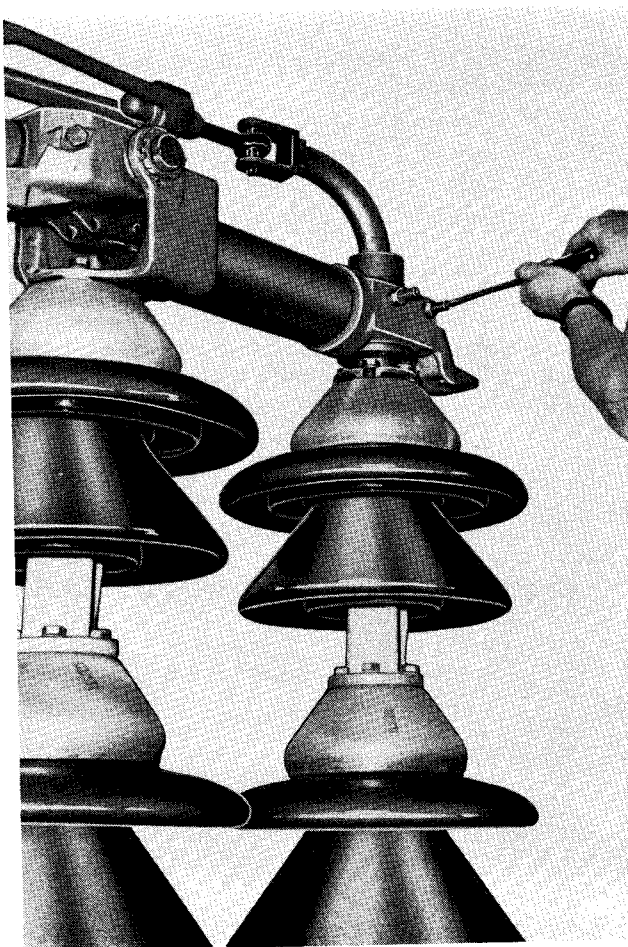

Fig. 12.
(J) With the pole units in the closed position, screw in the closed position pole unit stop studs until they are firmly seated. See Fig. 12 for location of these stops.